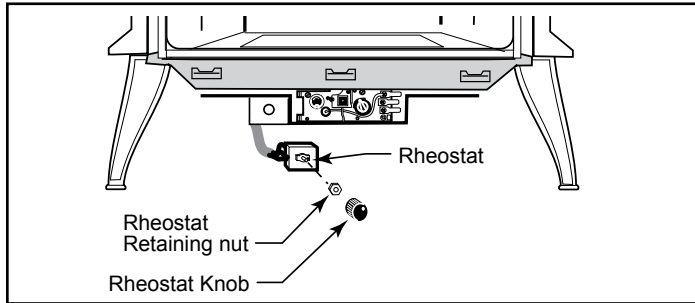

Figure 1 - Attach the fan rheostat.
It is easiest to install the fan before the stove is connected to the gas supply line. Compare the contents of the fan kit with the list above and Figure 1 to confirm that you have all of the parts.
3. The rheostat control switch attaches to the left side of the valve bracket at the front of the stove. (Figure 1)